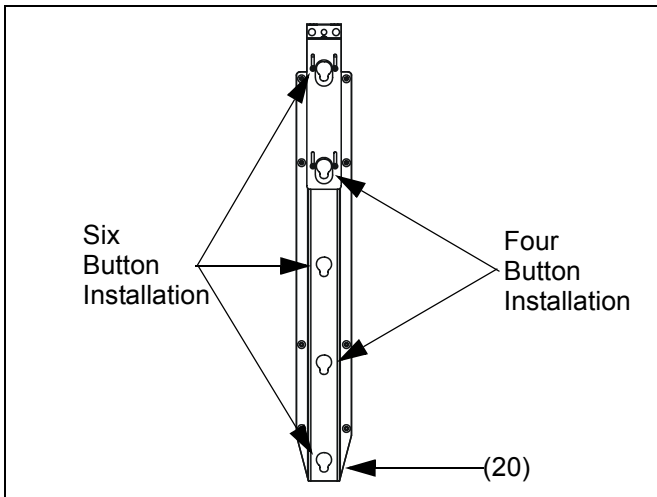

Figure 14: Mounting Holes
2. Note button openings to be used on each bracket (20) when installing display (See Figure 14).